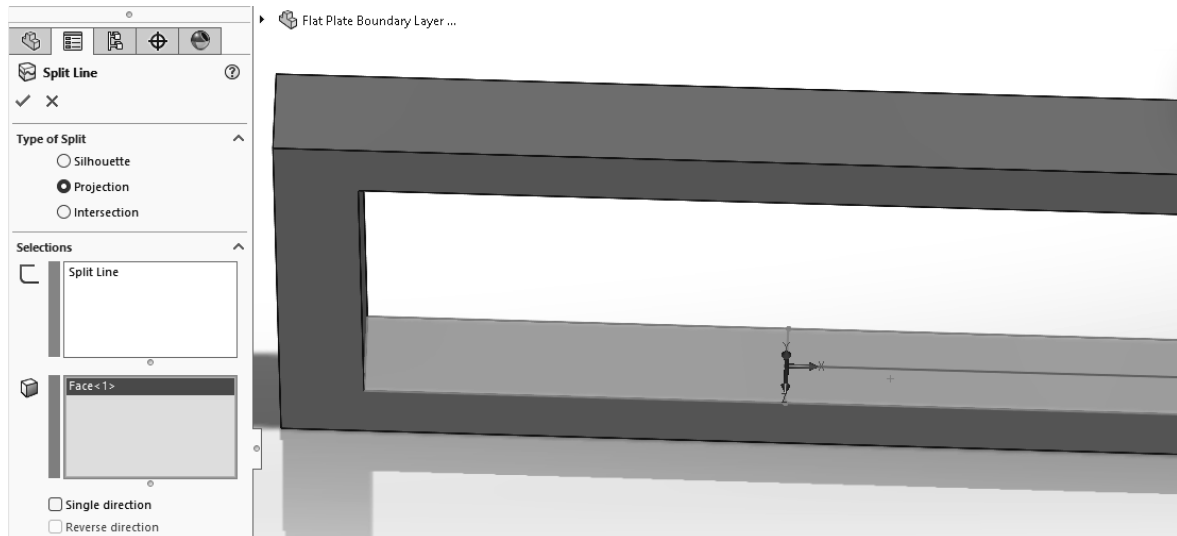

Figure 2.11b) Selection of surface for the split line
11. Rename the new sketch in the **FeatureManager design tree** and call it **Split Line**. Select **Insert>>Curve>>Split Line...** from the SOLIDWORKS menu. Select **Projection** under **Type to Split**. Select **Split Line** for **Sketch to Project** under **Selections**. For **Faces to Split**, select the surface where you have drawn your split line, see figure 2.11b). Close the dialog ☒. You have now finished the part for the flat plate boundary layer. Select **File>>Save** from the SOLIDWORKS menu.